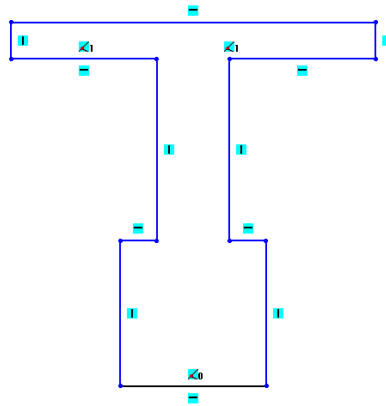

Figure 2-59 Final sketch for Tutorial 1
16. Move the line cursor vertically downward to the start point of the first line. Click when an orange circle is displayed; the final sketch for Tutorial 1 is created, as shown in Figure 2-59. In this figure, the grid display is turned off for clarity.
*In Figure 2-59, the display of relations is turned on. To turn off the display of relations, choose the **View Sketch Relations** button from the **Hide/Show Items** flyout in the **View (Head-Up)** toolbar.*